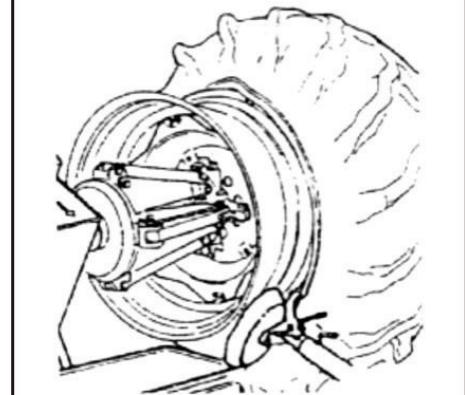

Fig 19
- 11) From the position of the wheel, visual check if the position is correct. If it is wrong, you should adjust. And then counterclockwise rotate the hydraulic clamp till the pliers at the lowest position and the inside of the tire is mounted. Remove the pliers **Fig 19** Take off the tool from the tire.